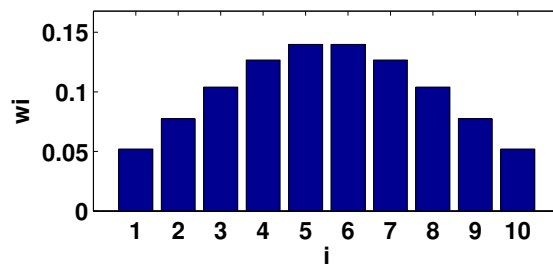

Figure 2.7: Example distribution for 10 rays using a Gaussian width of 1.0 (default)
- `gaussianWidth`: width of the Gaussian distribution of sensor rays weights. When averaging the sensor's response, the particular weight of each sensor ray is computed according to a Gaussian distribution as described by the formula in figure 2.6 where  $w_i$  is the weight of the  $i$ th ray,  $t_i$  is the angle between the  $i$ th rays and the sensor axis,  $a$  is the aperture angle of the sensor,  $g$  is the gaussian width, and  $n$  is the number of rays. As depicted in figure 2.7, rays in the center of the sensor cone weight more than the rays in the periphery. A wider or narrower distribution can be obtained by tuning the `gaussianWidth` parameter. An approximation of a flat distribution is obtained if `gaussianWidth` is chosen large enough.